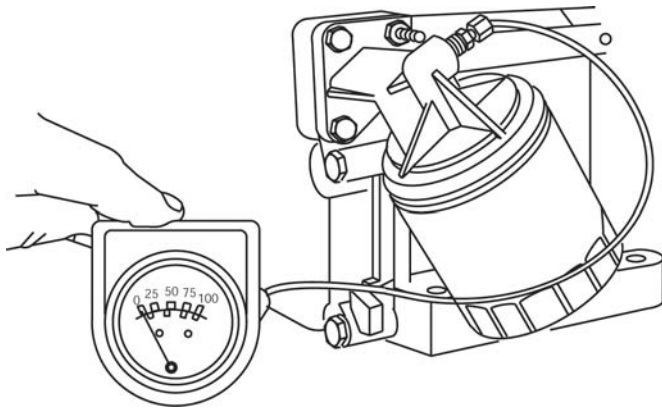

Fig. 29
3. Install oil pressure gauge, Fig. 29.